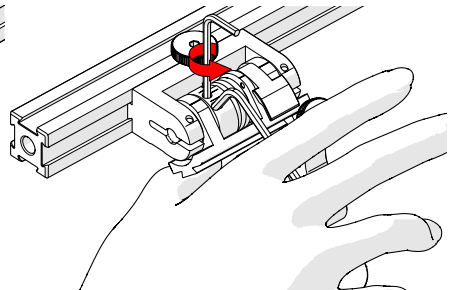

Fig. 90 - Press 3 mm hex wrench down
5. Lightly press the long arm of the 3 mm hex wrench down. Using the 2 mm hex wrench, loosen the force adjustment screw but do not remove it (Fig. 90).